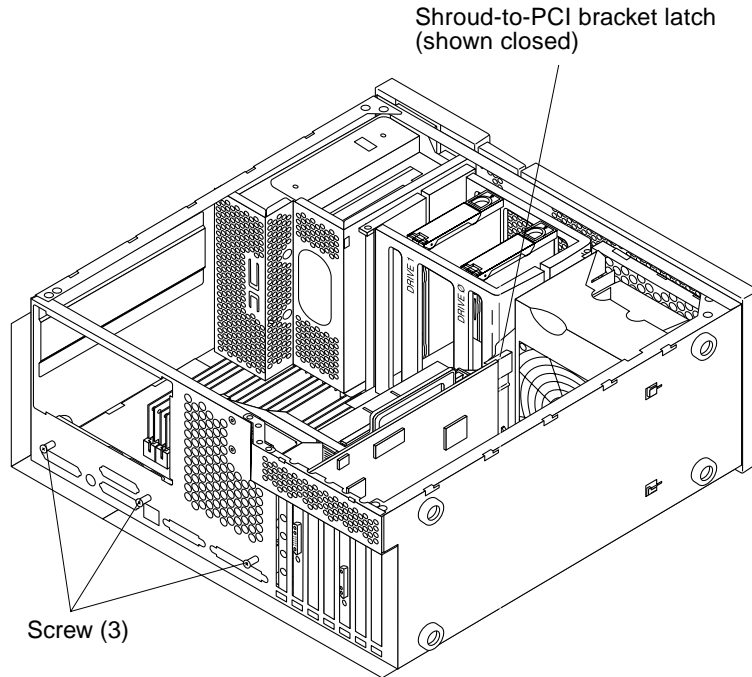
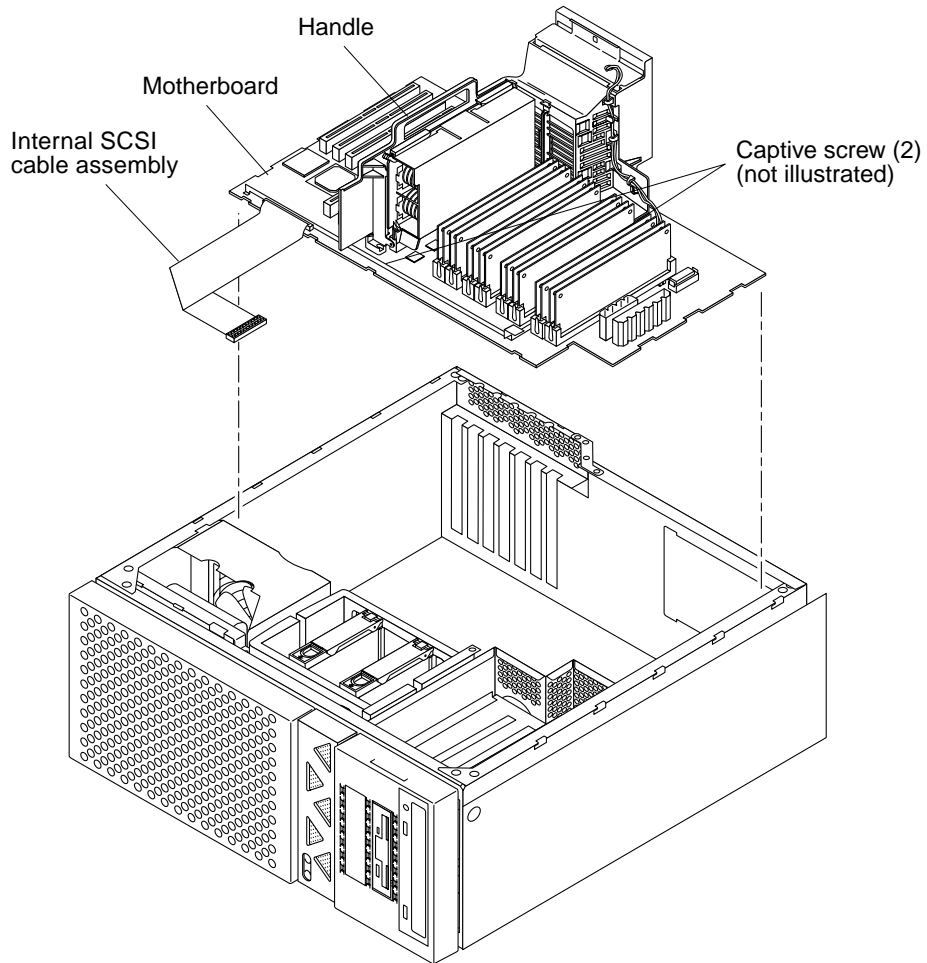

FIGURE 10-8 Removing and Replacing the Motherboard (Part 1 of 2)
FIGURE 10-9 Removing and Replacing the Motherboard (Part 2 of 2)
6. Remove the motherboard as follows (FIGURE 10-8) and (FIGURE 10-9):
b. Grasp the shroud assembly handle and place the motherboard into the chassis (FIGURE 10-9).
- i. Tighten the two captive screws securing the CPU fan assembly to the motherboard (FIGURE 10-9).
- ii. Tighten the three screws securing the motherboard to the chassis (FIGURE 10-8).